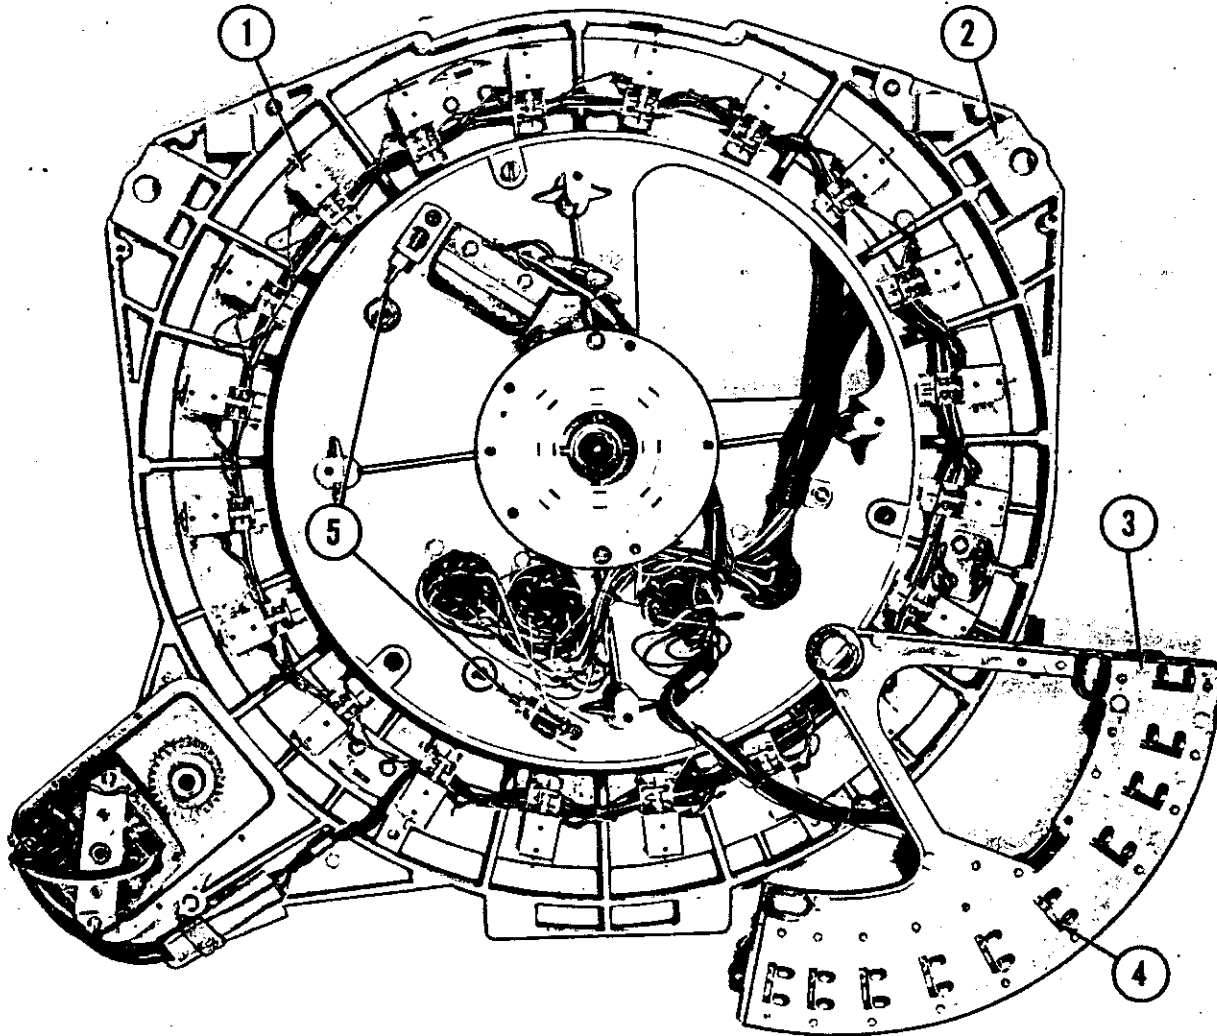

Fig. 30. MOUNTING CASTING AND STOP SOLENOID ASSEMBLY 68127
(3) The selector casting (Item 2, Fig. 30) and the 20 letter solenoids (Item 1) function as a mounting base for all of the electric selector components. The 20 letter solenoids are equally spaced so that each
(4) The mounting casting and stop solenoid assembly (Fig. 30) is so arranged that the stop plate ends of the solenoid plungers (Item 4) may stop the